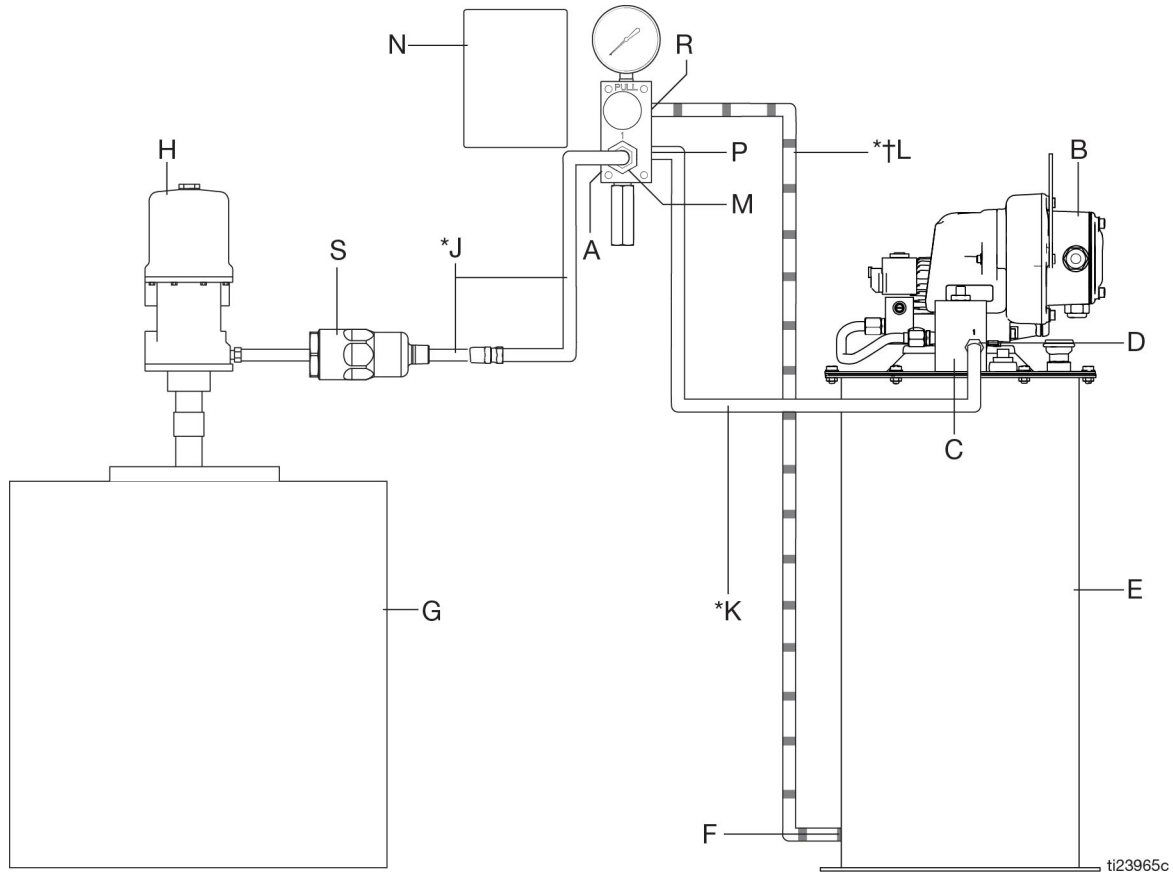
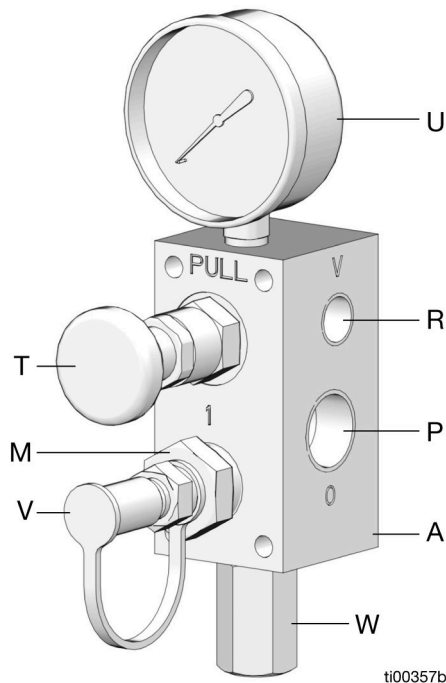

FIG. 1: Typical Installation
FIG. 2
The reference letters used in the following instructions refer to the **Typical Installation** (FIG. 1, page 4), and the **Fill Valve Component Identification** (FIG. 2).
2. Position the fill valve (A) as shown in FIG. 2. When the fill valve (A) is positioned correctly, the pressure gauge is located on the top of the fill valve block and the pressure relief valve (W) is located on the bottom of the block.
4. Secure the Fill Valve (A) to the installation surface using four 1/4 in. bolts.
5. Select a convenient location close to the valve to place the operating instructions label (N) that is included with the valve.
6. Connect the supply hose (K) between the auto-fill shut off valve (C) and the fill valve outlet (P) port that is marked with an O.
7. Connect a drain hose (L) between the fill valve vent port (R) marked with a V, and the reservoir port (E/F).
The reference letters used in the following instructions refer to the **Typical Installation** (FIG. 1, page 4), and the **Fill Valve Component Identification** (see FIG. 2, page 5).